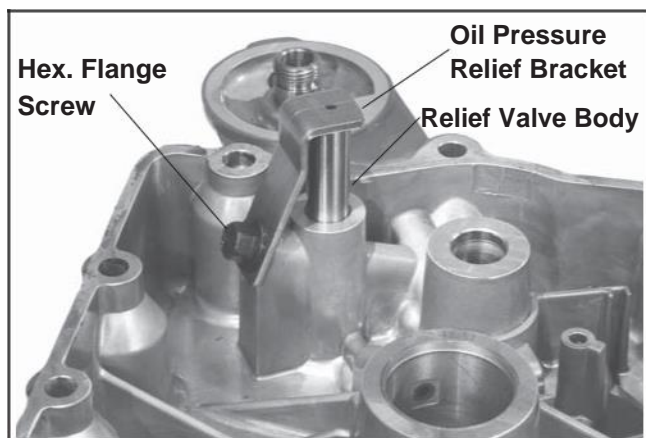

Figure 11-16. Installing Oil Pressure Relief Valve Bracket.
3. Push bracket down until it seats against top of relief valve body. Secure with hex. flange screw. See Figure 11-16.